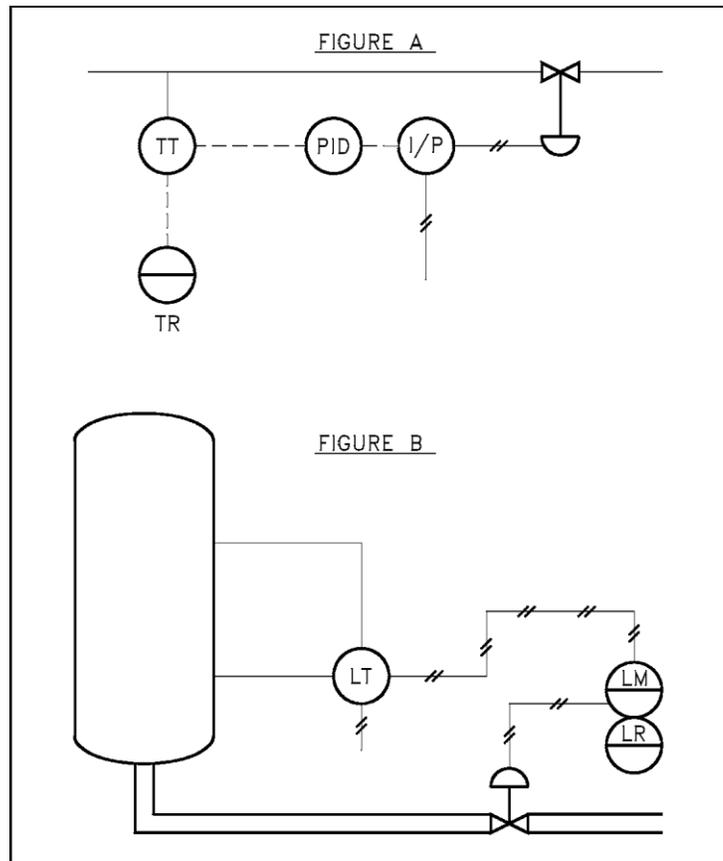

Figure 14 Instrumentation System Examples
Figure 14 shows two examples of simple instrument loops. Figure 14 (A) shows a temperature transmitter (TT), which generates two electrical signals. One signal goes to a board-mounted temperature recorder (TR) for display. The second signal is sent to a proportional-integral-derivative (PID) controller, the output of which is sent to a current-to-pneumatic modifier (I/P). In the I/P modifier, the electric signal is converted into a pneumatic signal, commonly 3 psi to 15 psi, which in turn operates the valve. The function of the complete loop is to modify flow based on process fluid temperature. Note that there is not enough information to determine how flow and temperature are related and what the setpoint is, but in some instances the setpoint is stated on a P&ID. Knowing the setpoint and purpose of the system will usually be sufficient to allow the operation of the instrument loop to be determined.
The pneumatic level transmitter (LT) illustrated in Figure 14 (B) senses tank level. The output of the level transmitter is pneumatic and is routed to a board-mounted level modifier (LM). The level modifier conditions the signal (possibly boosts or mathematically modifies the signal) and uses the modified signal for two purposes. The modifier drives a board-mounted recorder (LR) for indication, and it sends a modified pneumatic signal to the diaphragm-operated level control valve. Notice that insufficient information exists to determine the relationship between sensed tank level and valve operation.